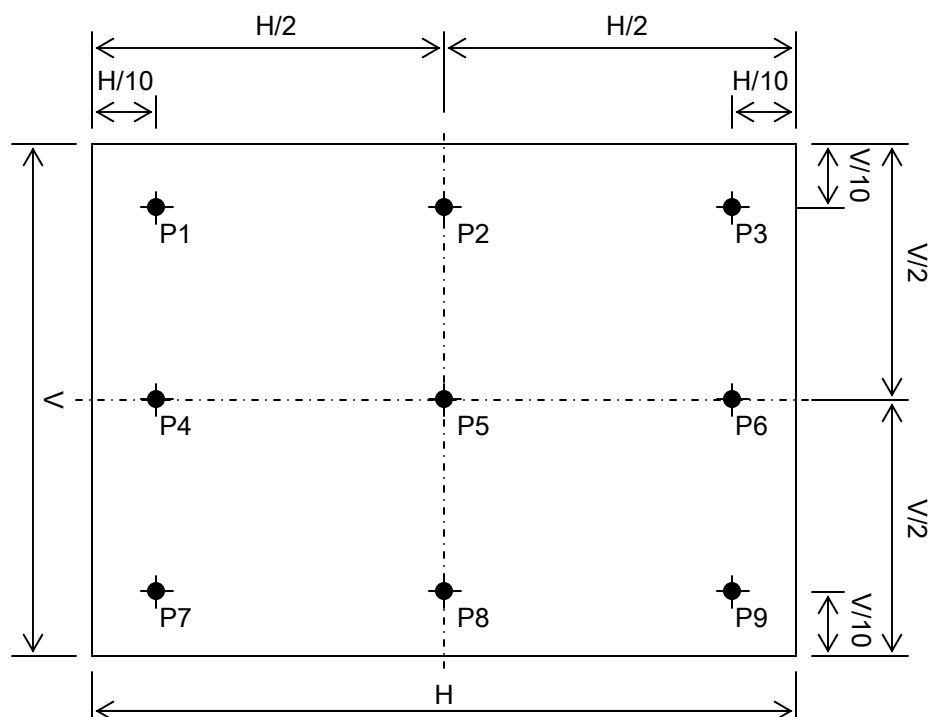

FIG. 2 Measure Point for Luminance
2. Surface luminance is the center point across the LCD surface 50cm from the surface with all pixels displaying white under the condition of IBL = 7.0mArms . For more information see FIG 2.
3. The variation in surface luminance , δ WHITE is determined by measuring LON at each test position 1 through 9, and then dividing the maximum LON of 9 points luminance by minimum LON of 9 points luminance. For more information see FIG 2